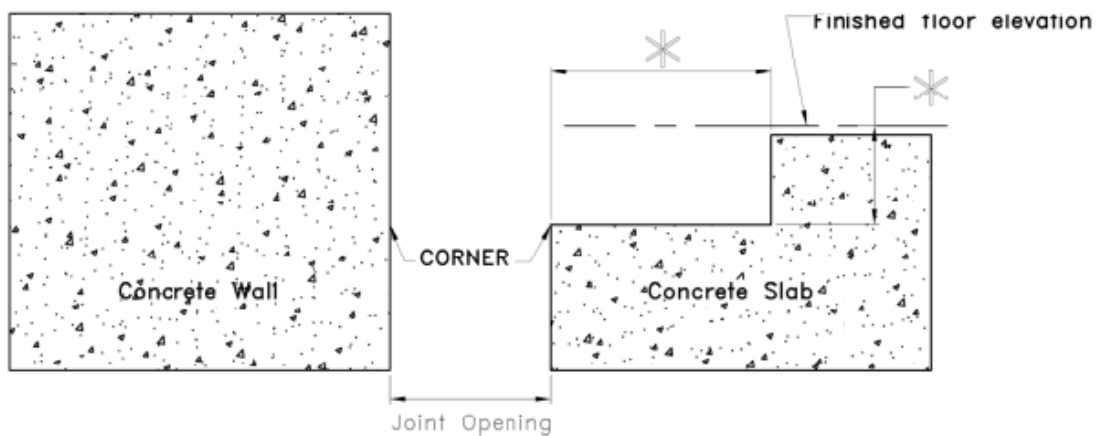

FIGURE 1
1. Prior to beginning work, installer shall inspect opposing concrete slabs, corners and blockouts for acceptability. For repair (if required) refer to step 2, also, measure joint opening for proper size as called for on shop drawings or CAD detail. **SEE FIGURE 1**